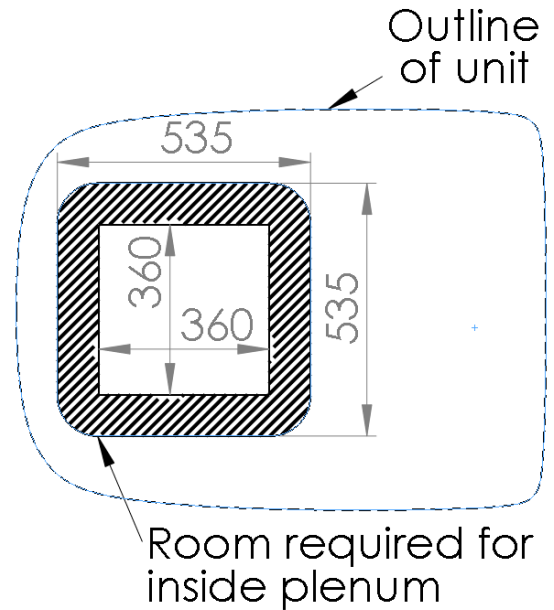

Figure 2- Inside plenum foot print.
- **INTERNAL CLEARANCE** The inside plenum has a foot print of 535 x 535 mm centered around the installation hole. Figure 2